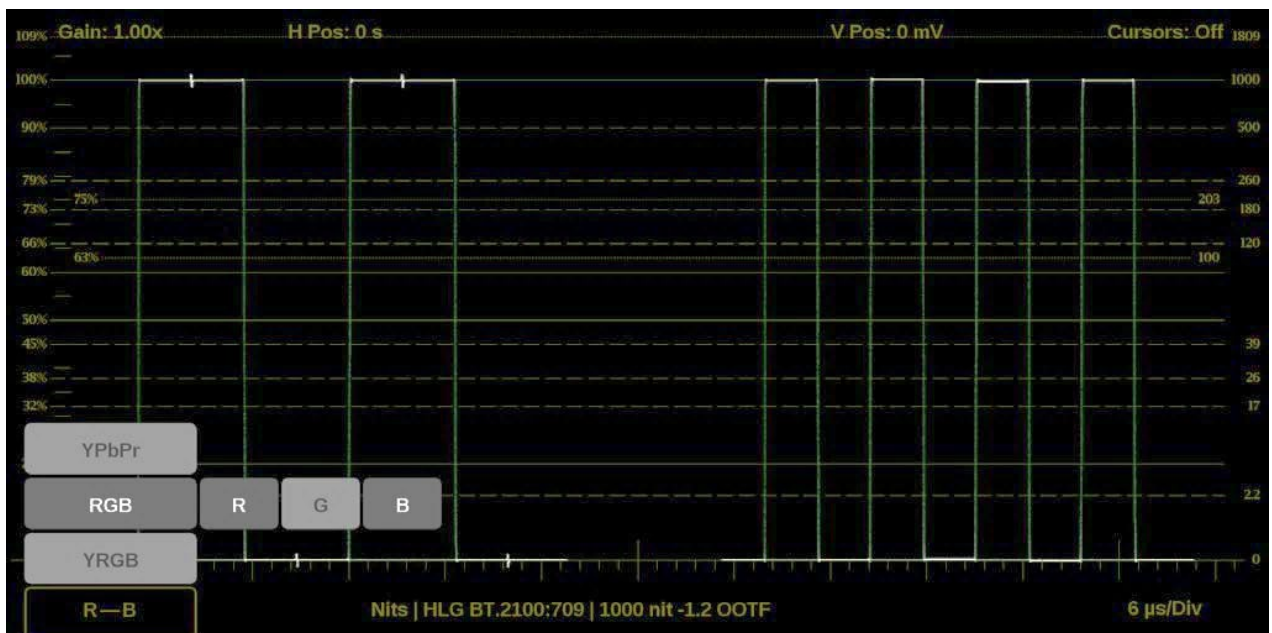

Figure 105: Waveform on-screen tools – Display Mode
1. Select the button in the bottom left corner of the application to expand the available display options. (See Figure 105.)